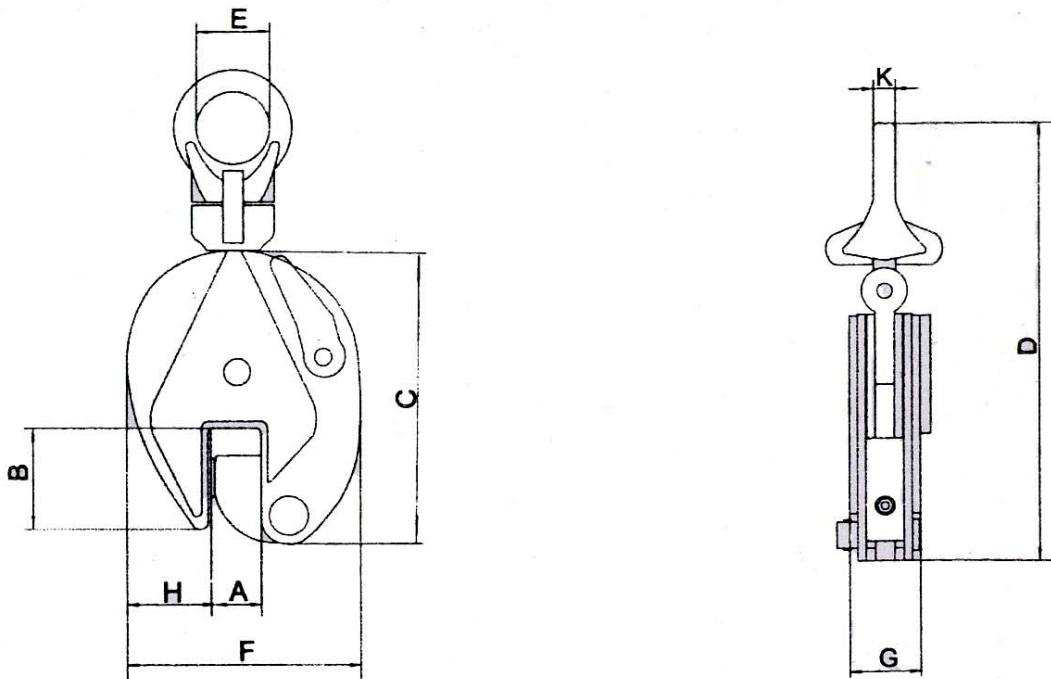

Fig.1: Specifications & Dimensions
- This clamp with pivoting shackle can be used for lifting and transporting plates at various angles, but the load capacity is reduced, as seen on the diagram (Fig.1 below) showing the load/force capacities.